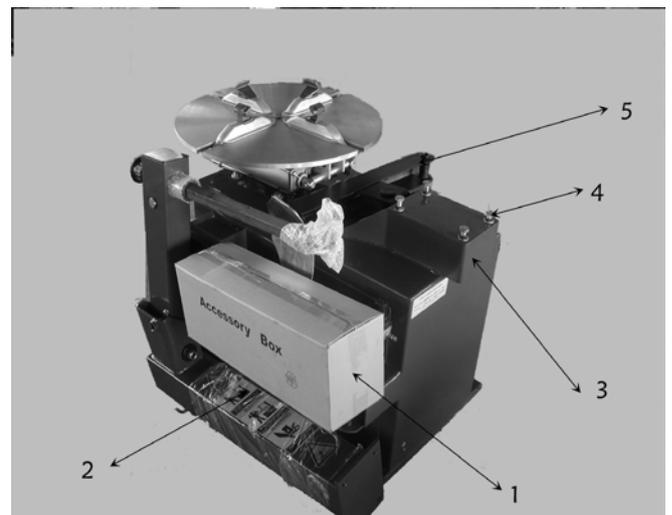

Fig 4-1
As shown in Fig 4-1, unpack the package box and take out the accessories (1) bead breaker arm (5) and column assembly (2) and fix the body as Fig4. Unscrew the hex screw (4) on the body and elastic washer and flat washer.
**4.2.6 Position the column assembly on the body with the warning stick facing toward. Retighten the bolt, flat washer and elastic washer removed shown in Fig 4-1 evenly. The tighten torque is 70 N·M**